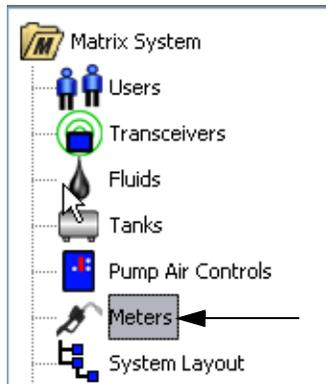

FIG. 85
1. To display the main Meters setup screen, select **Meters** from the list on the Matrix System Panel (FIG. 85).